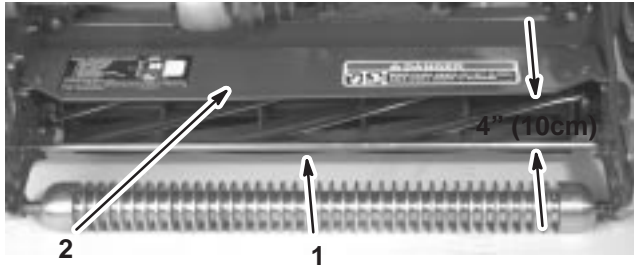

Figure 18
1. Measure the distance from top of the front support rod to the front lip of the shield at each end of the cutting unit (Fig. 18).